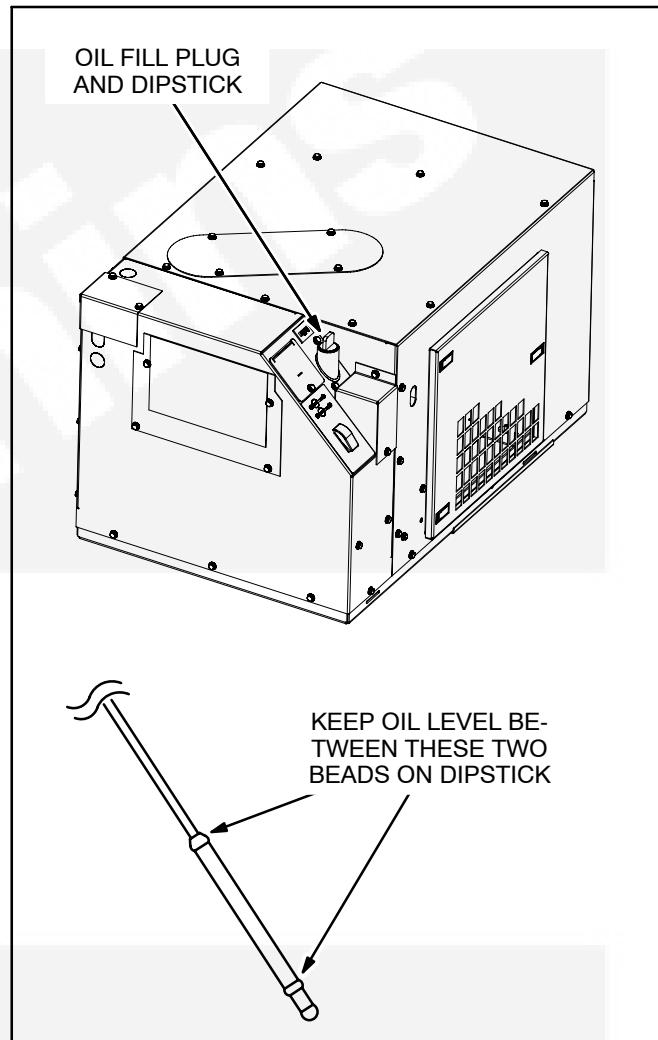

FIGURE 6. CHECKING ENGINE OIL LEVEL
1. Pull the plug and dipstick out of the oil fill neck (Figure 6). The plug may be difficult to pull straight out. It is easier if you tilt the plug in its socket while pulling out. Wipe off the dipstick and thread it back into the fill neck and seat the plug, which snaps into its socket. Remove the plug and dipstick again and check the oil level on the dip stick.